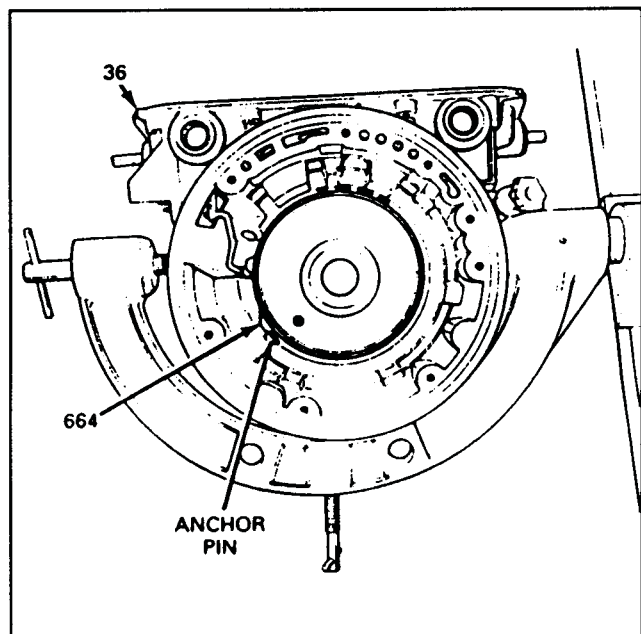

Figure 88
2. Install the 1-2 band into the main case, by positioning the band to main case anchor pins, as shown in Figure 88.